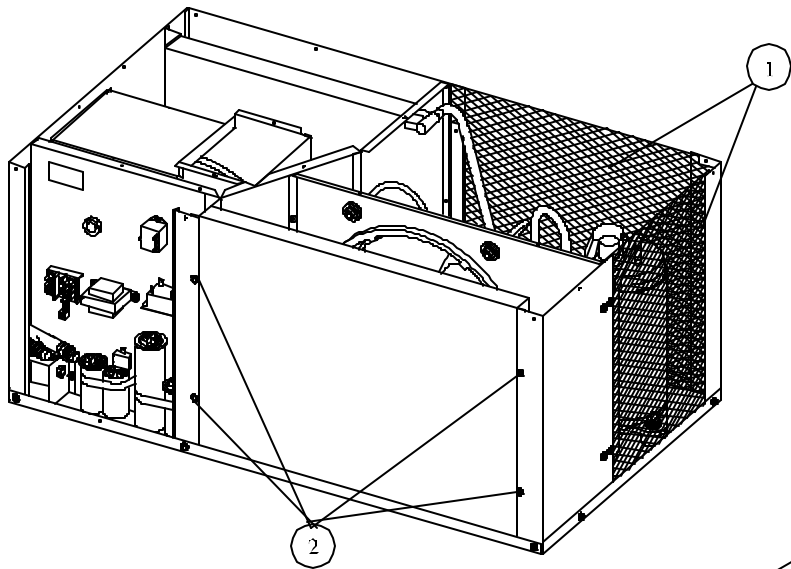

FIGURE 1
2. Remove screen around compressor. See Figure 1, #1.
5. Remove screws (Figure 1, #2) holding condenser to unit. You should now be able to remove condenser.
2. Remove screen around compressor compartment. See Figure 1, #1.